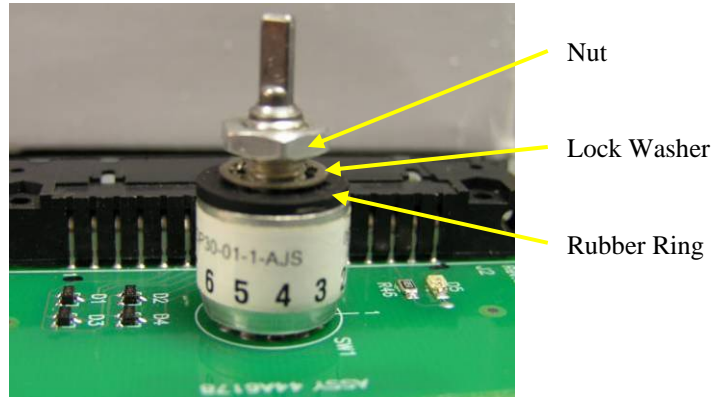
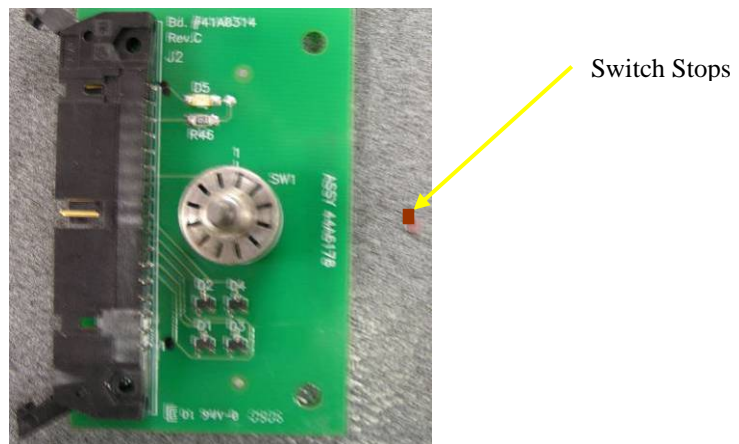

Figure 5: Rotating Switch Side View
Figure 6: Rotating Switch Pin
8. Next remove the screws (if present) that attach the switch to the regulator door, shown in Figure 5.
9. Once the cap has been removed, loosen the nut shown in Figure 6 that was located under the cap; remove the nut, the lock washer, and the switch from the regulator.
- Loosen the Nut shown in Figure 5, remove it, the Lock Washer, and the Rubber Ring. After the Rubber Ring has been removed, turn the switch over and gently tap it on a flat surface, to remove the Switch Stops shown in Figure 6. There should be two Switch Stops. They are small, flat square metal pieces.